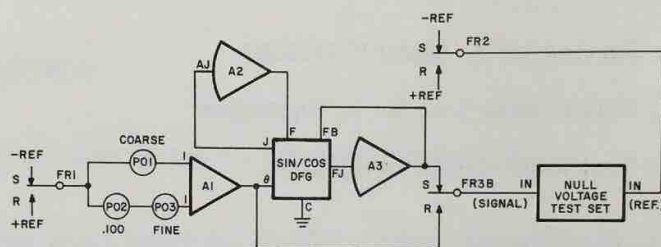

Figure 4.11. Sine-Cosine DFG Adjustment Circuit
3. Patch the unit as shown in Figure 4.11. Carefully balance amplifiers A1, A2 and A3.